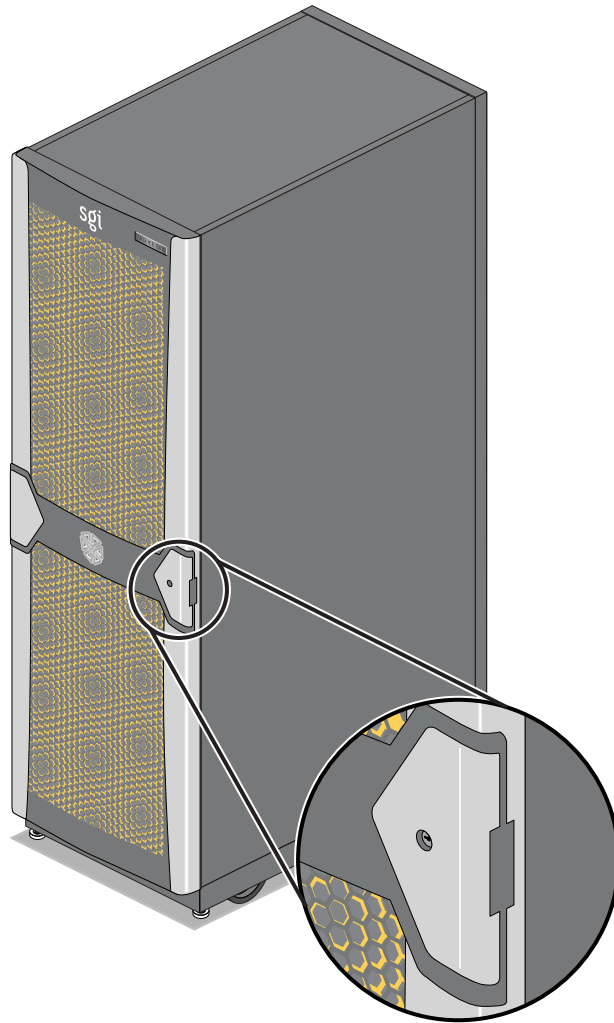

Figure 4-2 Front Lock on Tall (42U) Altix Rack
At the time this document was published only the tall (42U) Altix ICE rack (shown in Figure 4-2) was approved for use with the ICE systems.
- **Front and rear door.** The front door is opened by grasping the wide end of the triangle-shaped door piece and pulling outward. It uses a key lock for security purposes that should open all the front doors in a multi-rack system (see Figure 4-2 on page 46). Note that the front door and rear door locks are keyed differently. The optional water-chilled rear door does not use a lock.